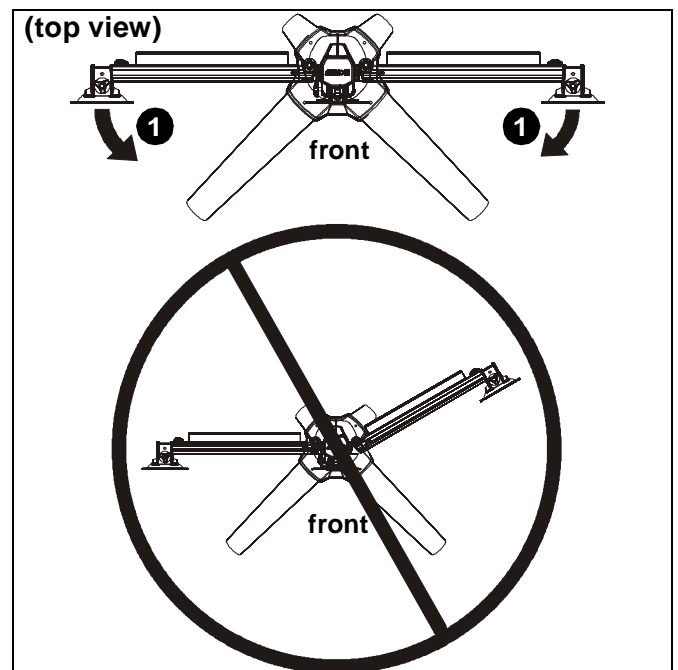

Figure 9
1. Array arms may pivot toward the front of mount up to 15° per arm. (See Figure 9)
WARNING: Pivoting array arms toward the back of mount may cause K3F310 mount to tip over causing serious personal injury or damage to equipment! Do not pivot arms toward back of mount! (See Figure 9)